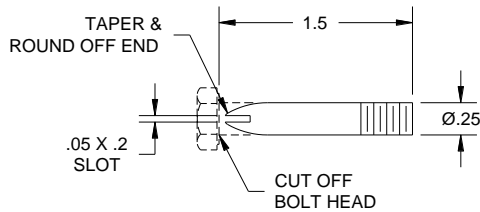

Figure 2. Alignment Pin
- a. If needed, install alignment pins in two aft mounting holes. Fabricate pins from AN4 bolts like the one shown in **Figure 2** on page 24.
- e. Secure tank to wing with three (3) AN4H bolts at the mid wing location. Remove the alignment pins at the aft spar location with a flat head screw driver. Install two (2) AN4 bolts and lock tabs at this location. Torque all bolts 50 to 70 inch-pounds. Secure with safety wire. Aft two (2) bolts are secured with the lock tab.
- g. Apply EZ TURN lubricant (see materials chart) to tank vent fitting threads. Secure two (2) vent lines to tank.